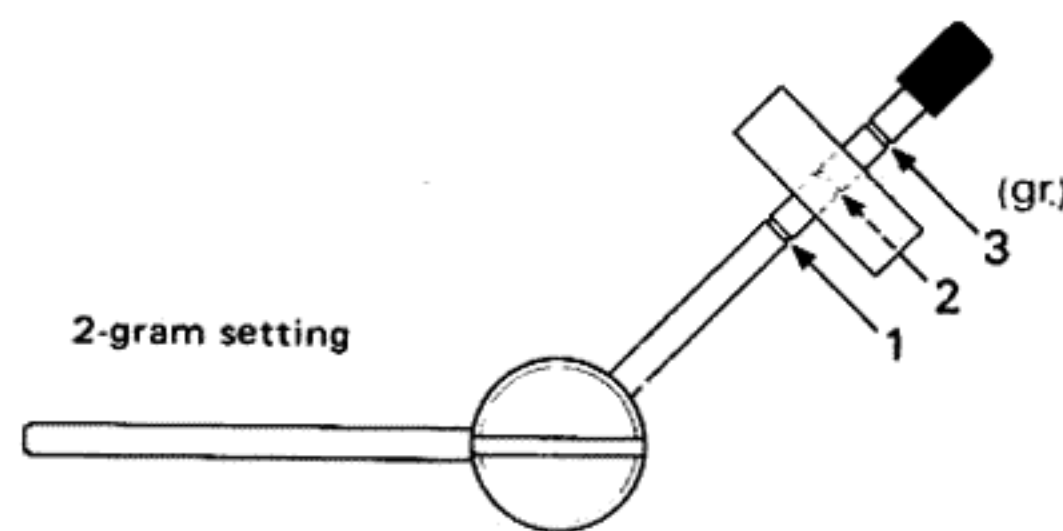

Fig. 11
6. Slide the anti-skating weight and set it to the same value as the tracking force for the cartridge. Release the rod from the spring (Figs. 11, 12).